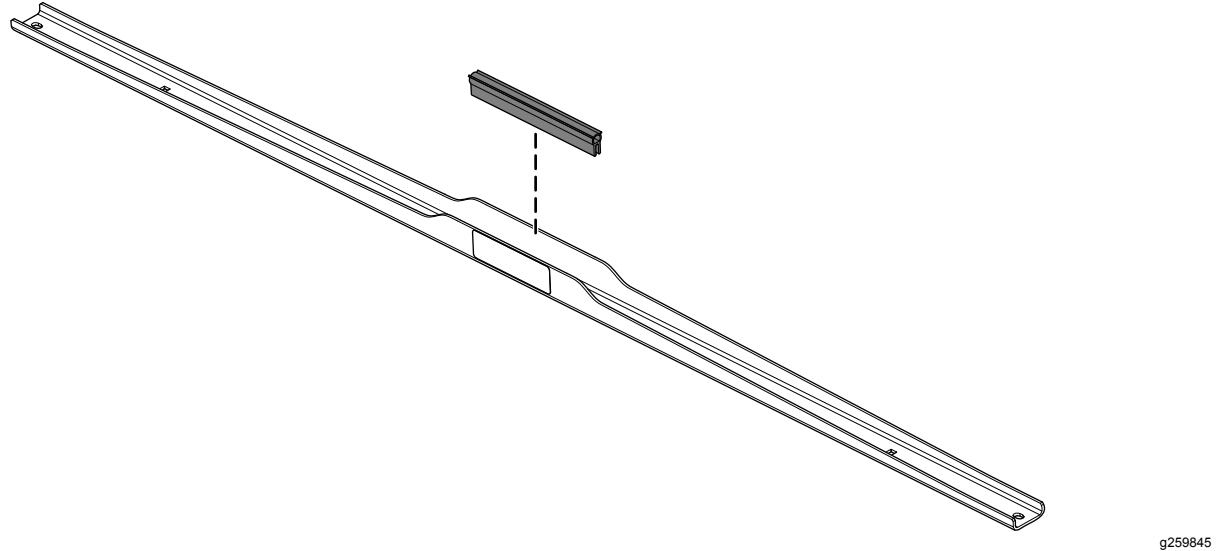

Figure 6
3. Install the trim seal onto the canopy support bracket (Figure 6).